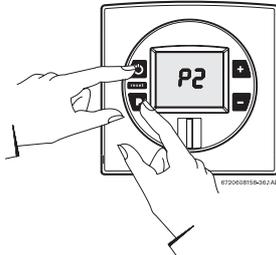

Fig. 62
- ▶ While holding the Program (P) button, press the ON/OFF button to turn ON the heater (see Fig. 62). As soon as '188' flashes on the display, release the Program button. The display should now read P2. Press **-** button until "P1" appears on display.